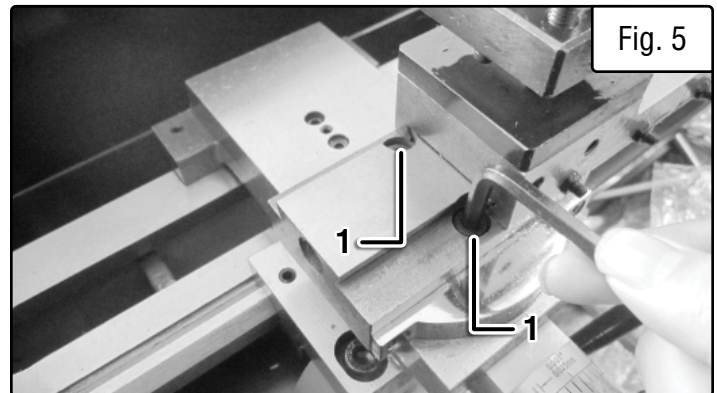

Fig. 5
1. Rotate the handle to move the compound slide back and expose the two screws (Fig. 5 - 1). Loosen these two screws with one of the included hex wrenches.